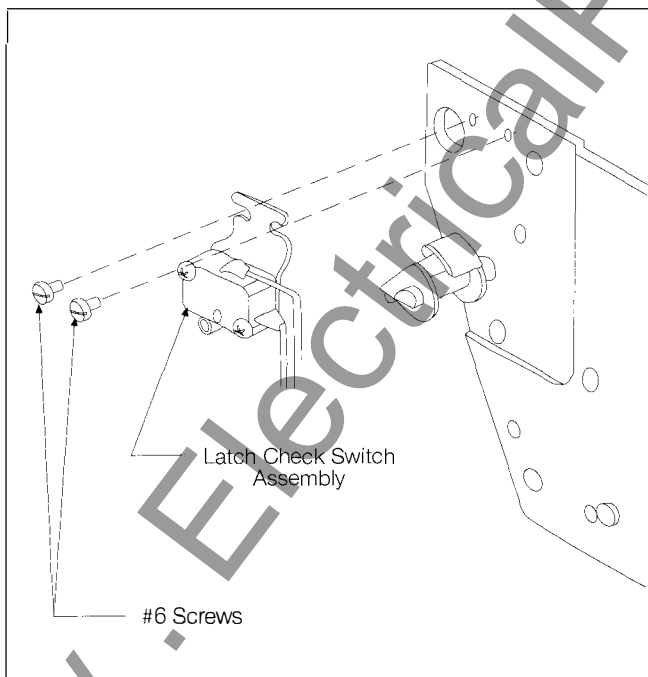

Figure 2. Latch Check Switch Adjustment
- 5.) Install the latch check switch assembly (see Figure 2). Secure the latch check switch assembly to the mechanism plate using (2) #6 screws provided. Do not tighten screws until the latch check switch assembly is properly adjusted.